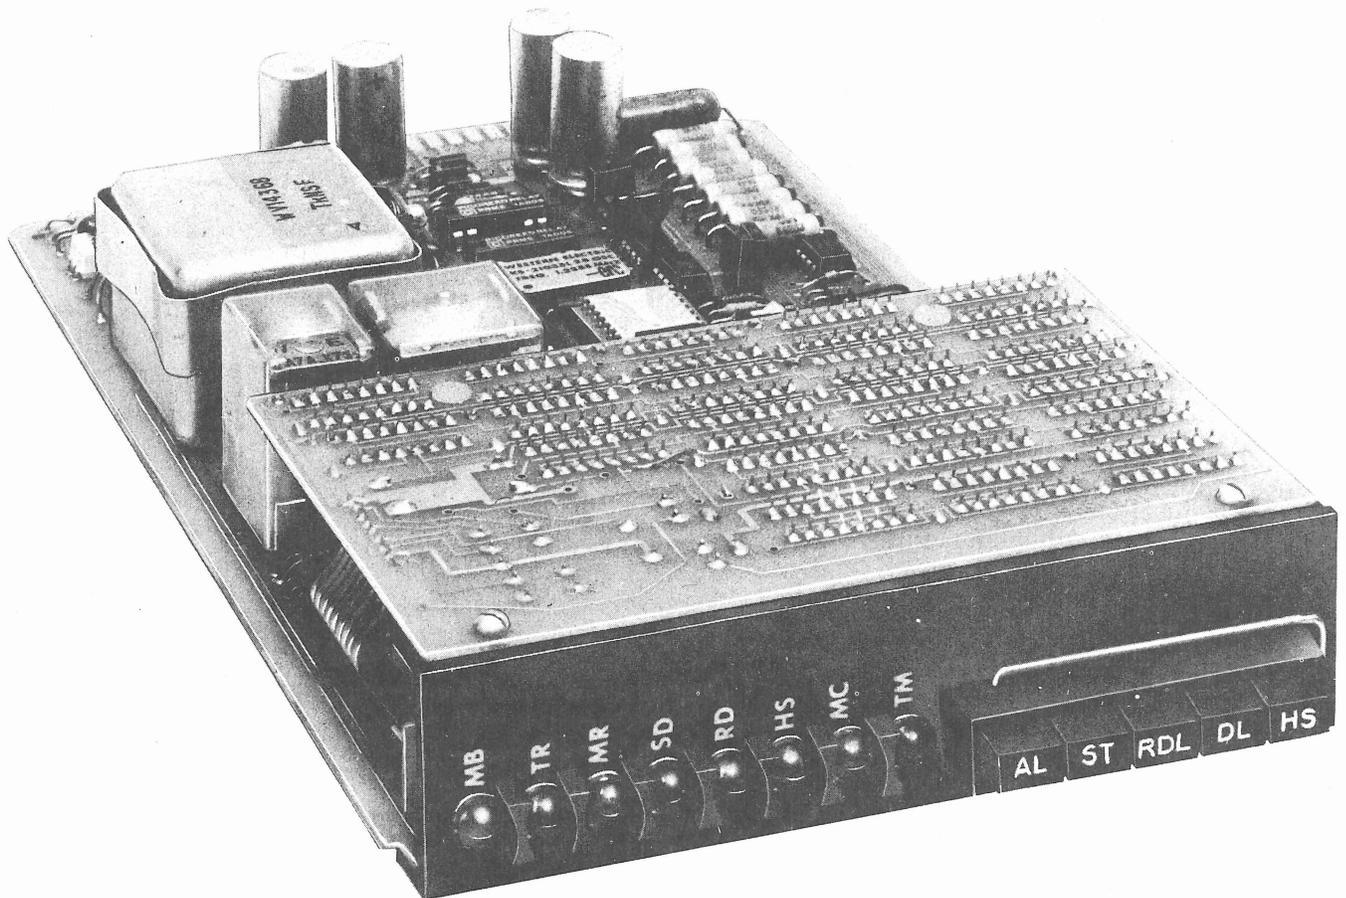

Fig. 2—DS 212A-L1
- DS 212A-L1: Printed circuit pack assembly shown in Fig. 2.